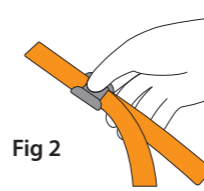

Fig 2
5. Press inner buckle clamp to release in figure 2.